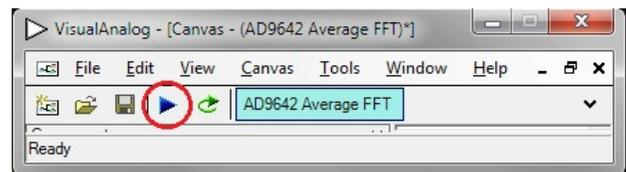

Figure 12. Run Button (Encircled in Red) in VisualAnalog Toolbar, Collapsed Display
5. Click the Run button in the VisualAnalog toolbar (see Figure 12).
If the FFT window remains blank after **Run** (see Figure 12) is clicked, do the following: